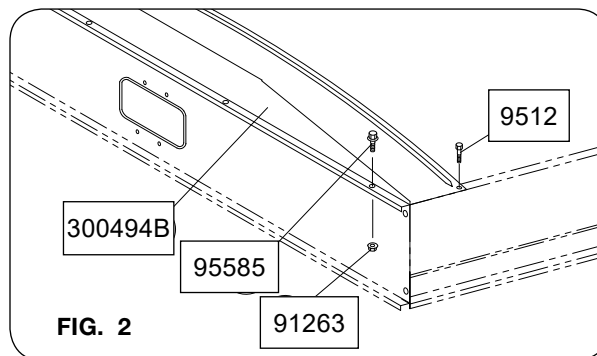

FIG. 2
2. Remove mounting bezel and measure  $\frac{7}{8}$ " from most rearward hole (farthest from fender front edge) to locate third hole, see figure 2. Mark location and drill a  $1 \frac{1}{16}$ " diameter hole. See figure 3.
2. Assemble the end caps (300494B) to the front and rear side boards with flange screws (95585) and flange nuts (91263). Fasten to right and left side boards with 1/4" x 1" self-drilling screw (9512). See FIG. 2.